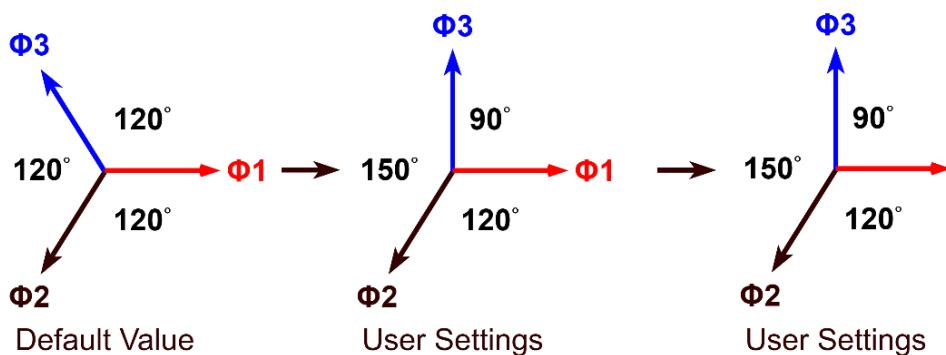

Figure 4-33: Output Configuration (Phase) Page – When Independent Relock is Disabled
- Independent Relock = Disable:** If the output frequencies of the three phases are different, and the user sets all three frequencies to be the same during output, the phase difference between the outputs will not automatically return to the default 120°, as shown in Figure 4-33.